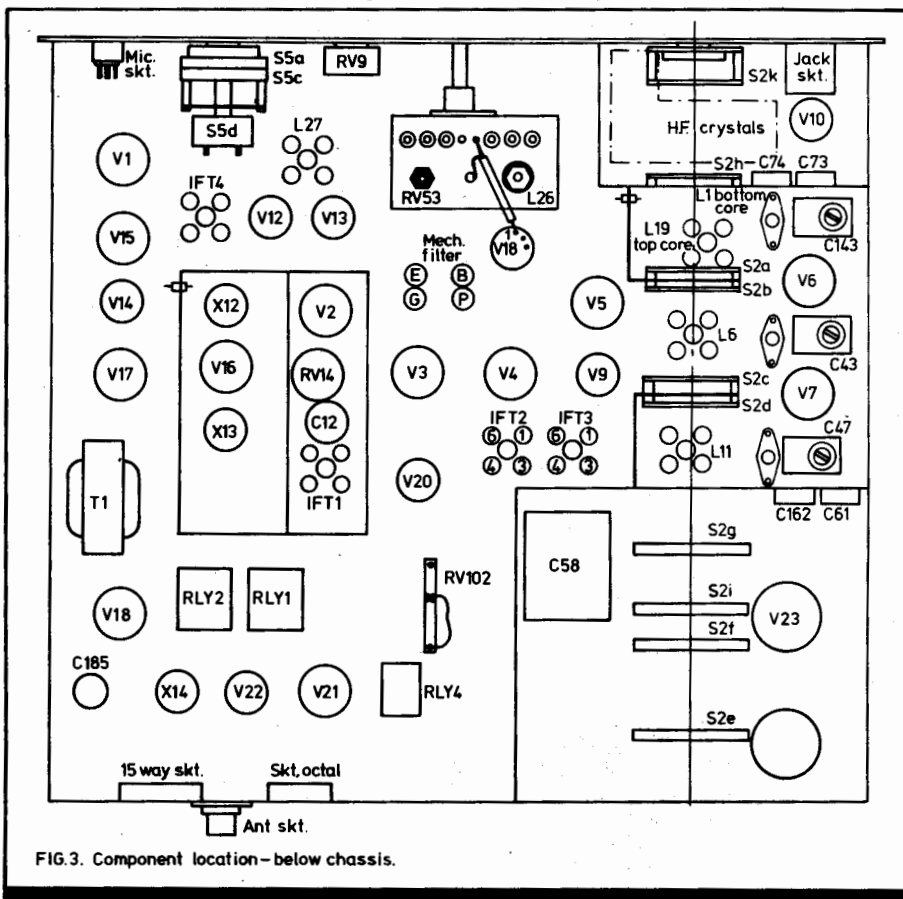

FIG. 3. Component location - below chassis.
3. Reset VFO to 200. Adjust the core of L26, which is on the lower side of the VFO, for zero beat with the calibrator signal. See Fig. 3 for the position of L26.
5. Set VFO to 100. Switch IRT off and adjust RV53 for zero beat with the calibrator signal. See Fig. 3 for position of RV53.
2. Connect the swamping tool between pin 4 of IFT2 and chassis (see Fig. 3 for location of IFT2). Adjust lower core of IFT2 for peak on S-meter, reducing input signal if necessary to keep reading below S5. **SWITCH OFF KW2000.**